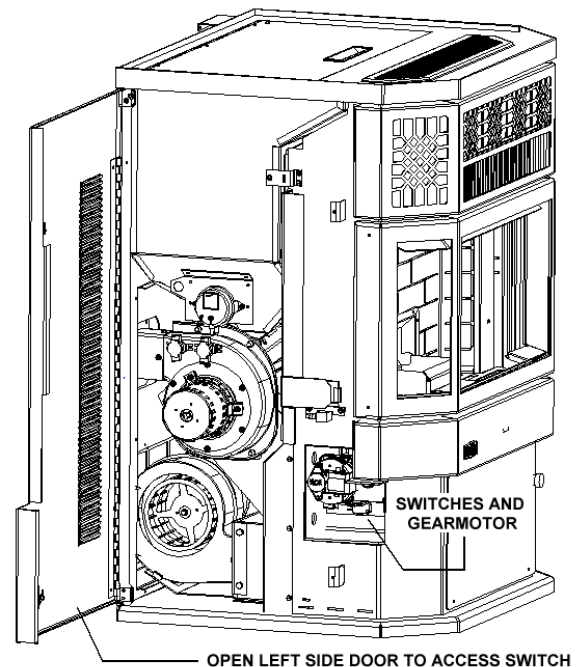

Figure 1
**First unplug the unit** and use a vacuum to clean out the fuel or ash in the pot. To clear a foreign object, may require reversing the motor by hand. Figure 1 shows how to access the area where the Switch and Revolution gearmotor are located.